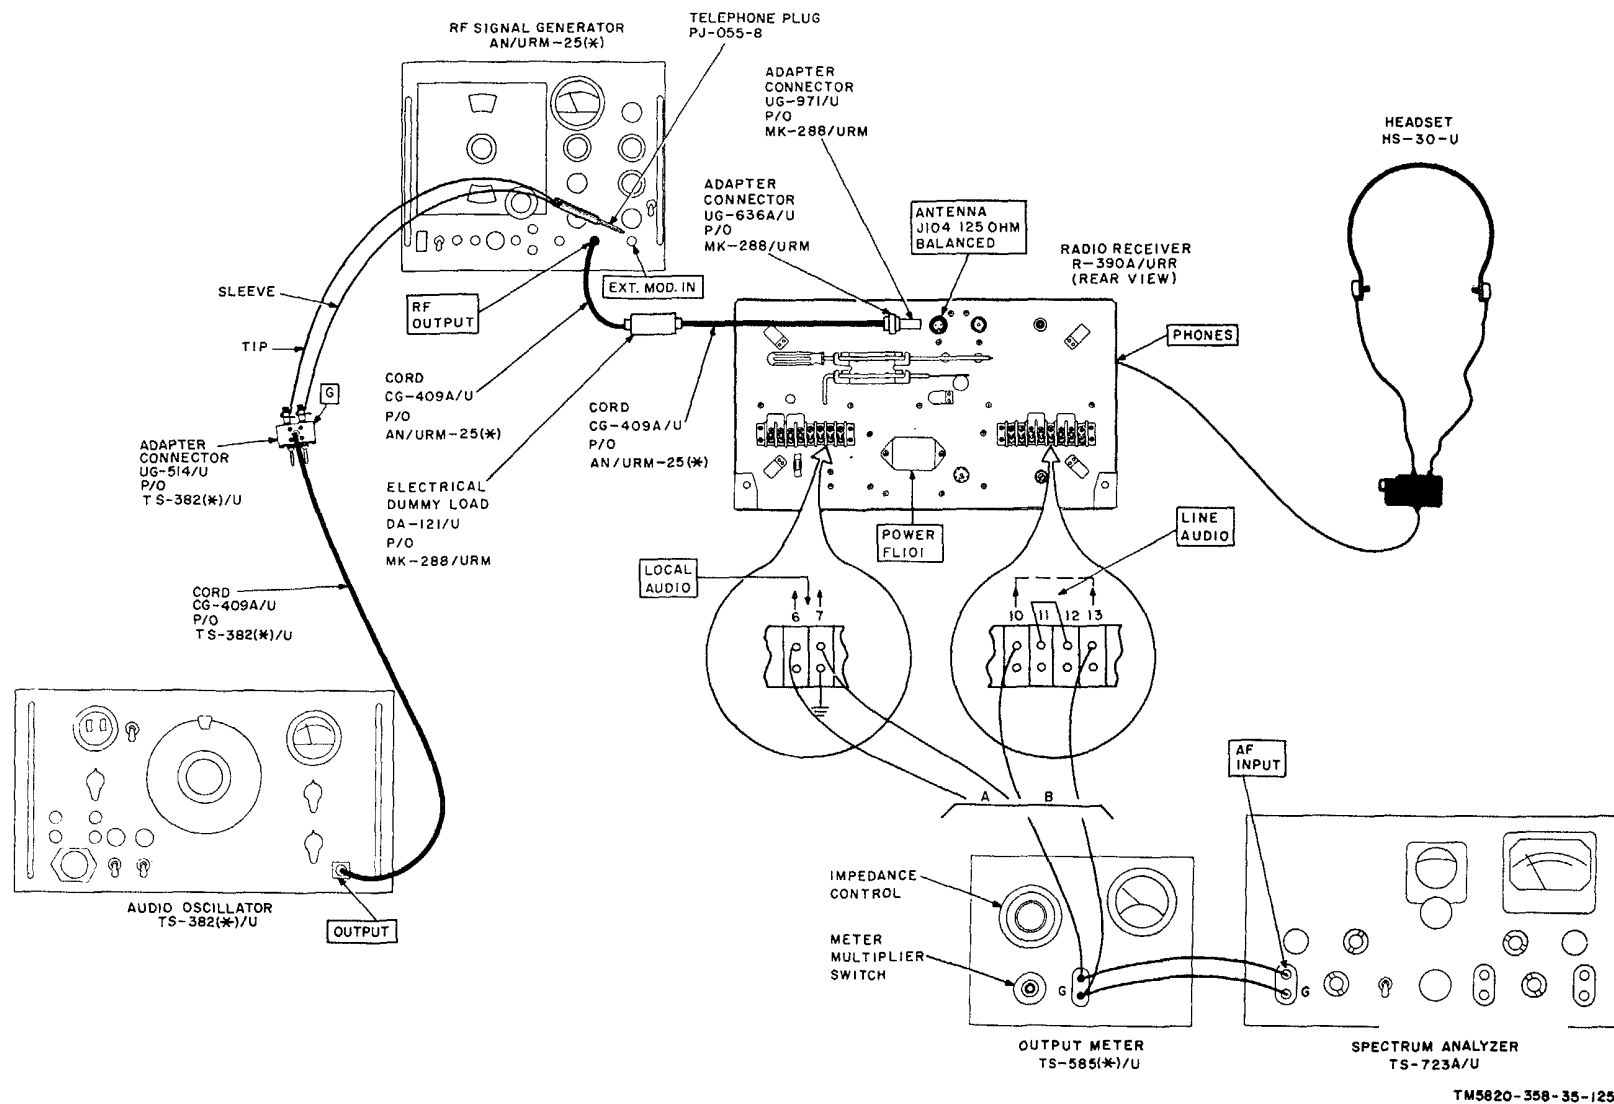

Figure 80. Audio distortion tests setup.
distortion test (fig. 80), Cord CG-409/U is used in place of Telephone Plug PL-055-B.
- (fig. 80)
- b. Test Connections and Conditions. Connect the equipment as shown in A, figure 80. Turn the TS-723A/u on and allow it to warm up for 10 minutes.
| 2        | No change from last positions of step No. 1, except:TS-585(*)/UMeter multiplier switch: TS-723A/UAF-RF: AFINPUT: MIN.FREQ RANGE: X 10FREQUENCY: 100 on tuning dialFunction switch: SET LEVELMeter range switch: 100%BALANCE: max ccw                                                                                                                                                                                                                                                                                                                                                                                                                                                                                                                                                                                           | No change from last positions in step No.1.                                                                                                                                                                                                                                                                                             | a. Connect TS-585(*)/U as shown in B, figure 80 and repeat step No. 1e.b. Turn off test equipment and remove all test connections from receiver.                                                                                                                                                                                                                                                                                                                                                                                                                                                                                                                                                                                                                                                                                                                                                                                                                                                                                                                                                                                                                                               | a. Distortion should not exceed 6%.b. None.                                                |